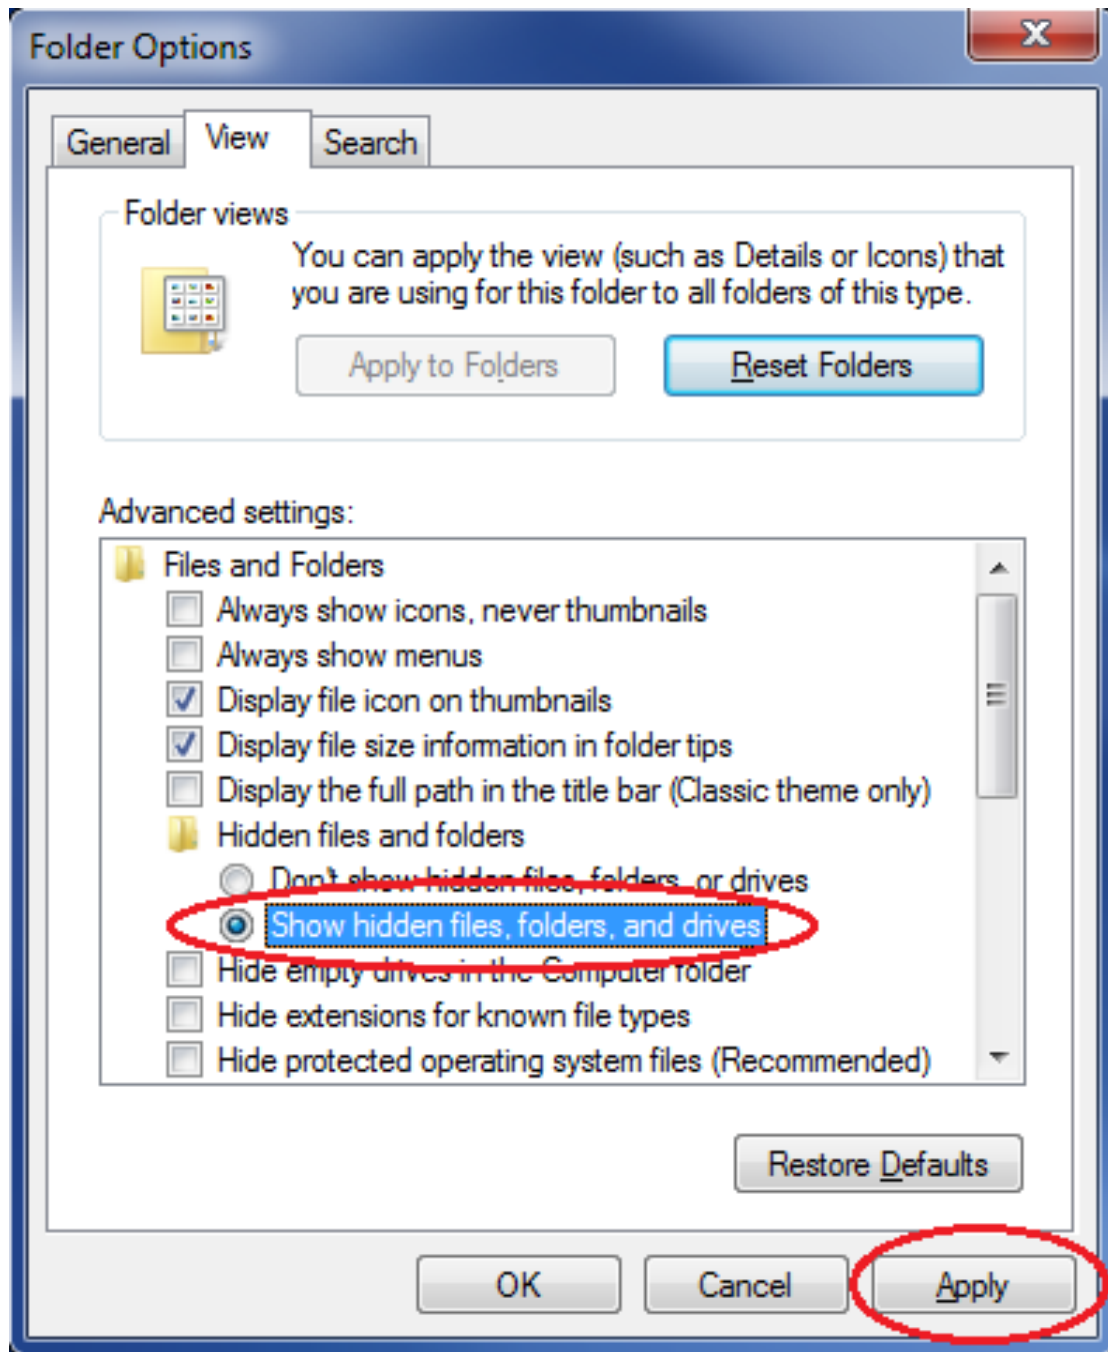

Figure 11 - Folder Options, Apply Button
6. Under “Advanced Settings:”, click on “Show hidden files, folders, or drives” to enable the “Apply” button (see Figure 11).